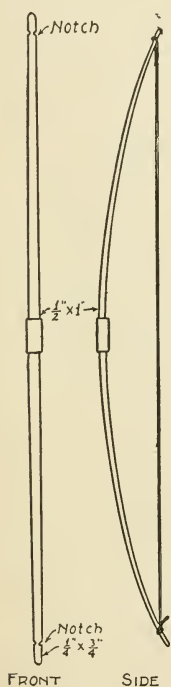

FIG. 241. — A
**The Length of the Bow** should be about the height of the person using it. Figure 241 shows a five-foot bow, with the other proportions such as are on makes to be found in the stores. Cut your piece of wood five feet long, and, after placing it in the bench-vise, shape it down with a draw-knife or plane until it is one inch wide by one-half inch thick at the handle and three-quarters of an inch wide by one-quarter inch thick at the ends. The bow